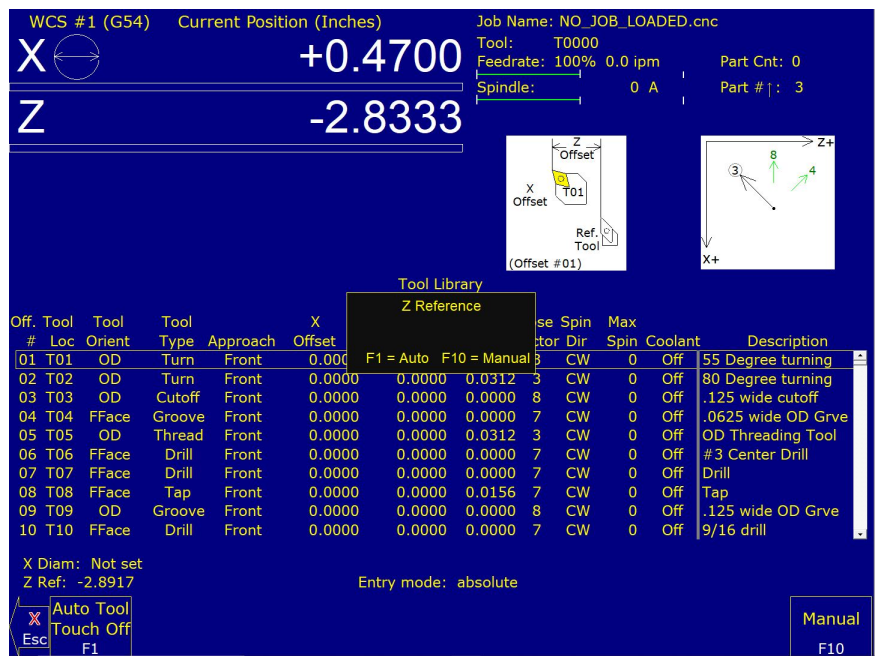

Figure 5.5: **F1 – Z Ref** menu
- To complete the Z-reference, select the **F1 – Z Ref** key. This will pull the menu options up, as shown in Figure 5.5. You will want to select the **F1 – Auto** key. Press the **Cycle Start** key. Selecting this option will allow the tool to move towards the TT-4/TT-2.